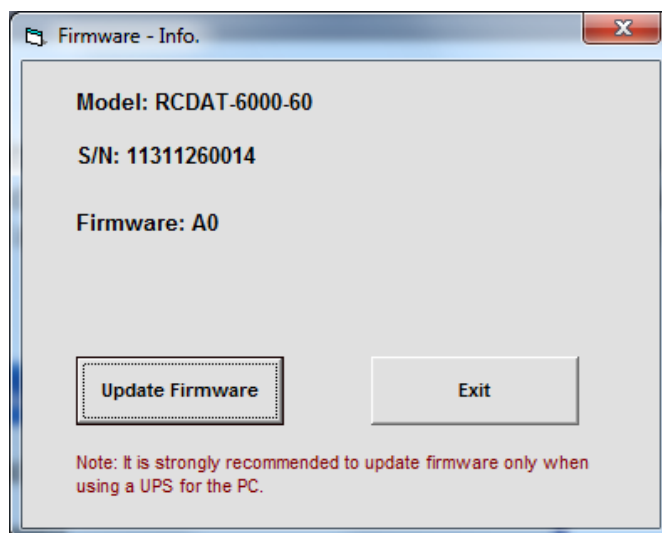

Figure 3.6.4: Firmware Information Window
3.6.4 **The Firmware button will open the** firmware - info window to open (See **Fig. 3.6.4**). The 'Firmware' listed is the version of the firmware installed in your attenuator. Click on "Update Firmware" to select a new firmware version to install or click 'Exit' to close the firmware – info window.